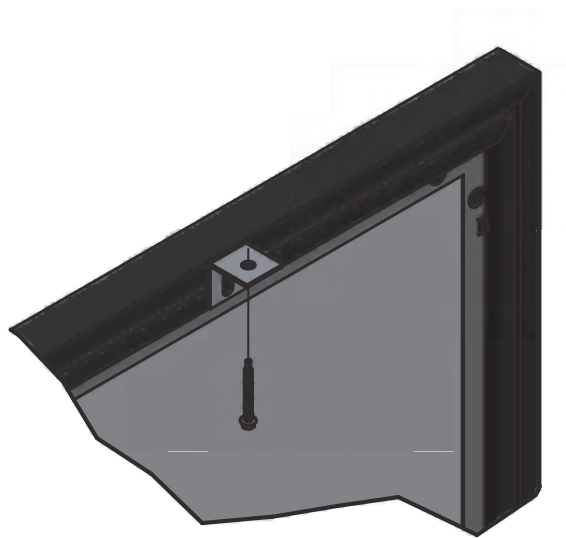

Figure 11: Installing Frame/Screen Assembly - Rear View, Close Up
5. Install the frame/screen assembly in the aperture using the attached mounting brackets and appropriate fasteners (refer to Figure 11).